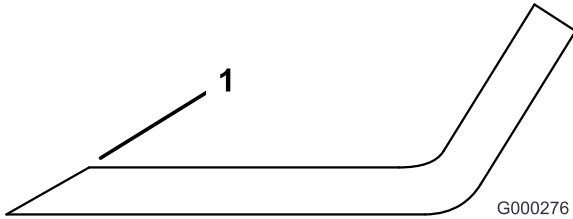

Figure 97
1. Use a file to sharpen the cutting edge at both ends of the blade (Figure 97). Maintain the original angle. The blade retains its balance if the same amount of material is removed from both cutting edges.